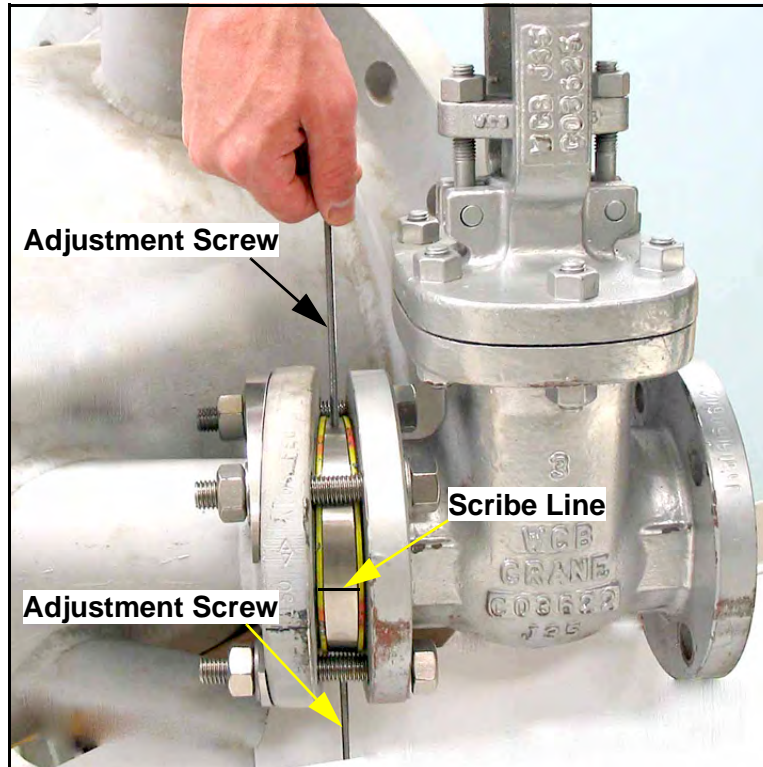

Figure 6: Adjusting the Wedge Position
5. Insert the two adjustment screws into the threaded holes on the 6° wedge (see *Figure 6* below) and use them to rotate the wedge until the scribe line is centered between the two bolts.